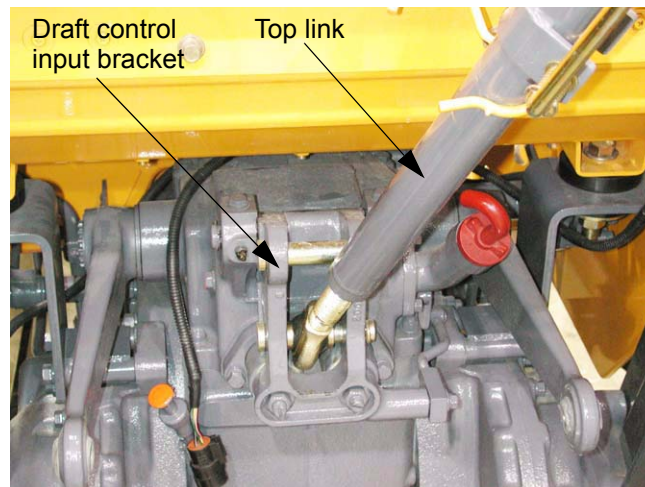

Figure 1.18
- 1.18. Remove the hairpin clip and clevis pin that secure the top link to the draft control input bracket. See Figure 1.18.